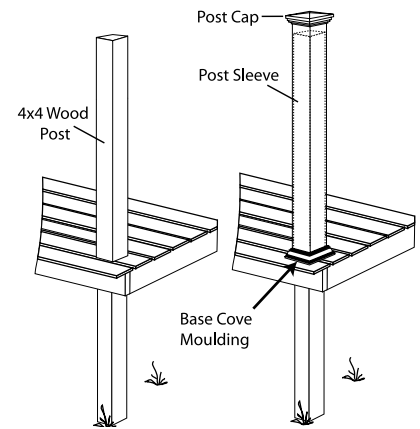

Figure 1
5. After decking is installed, slide post sleeve over the wood 4x4 (Fig. 1).
*Note: Once posts and/or post sleeves are installed, ensure they are plumb and level. Prior to fastening any sections to the posts, install Base Cove Moulding for a finished look (Fig. 1). Base Cove Moulding may not be installed after sections are attached to posts.*